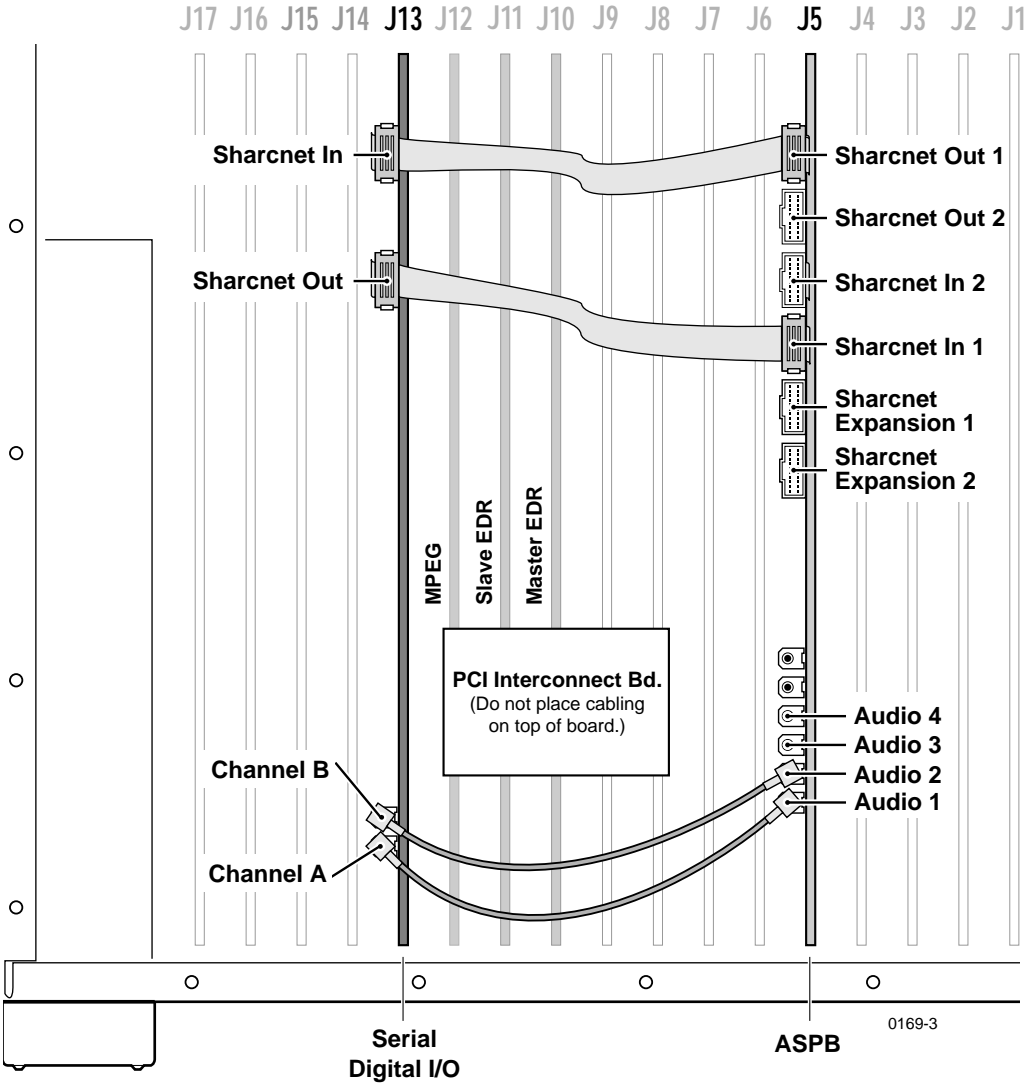
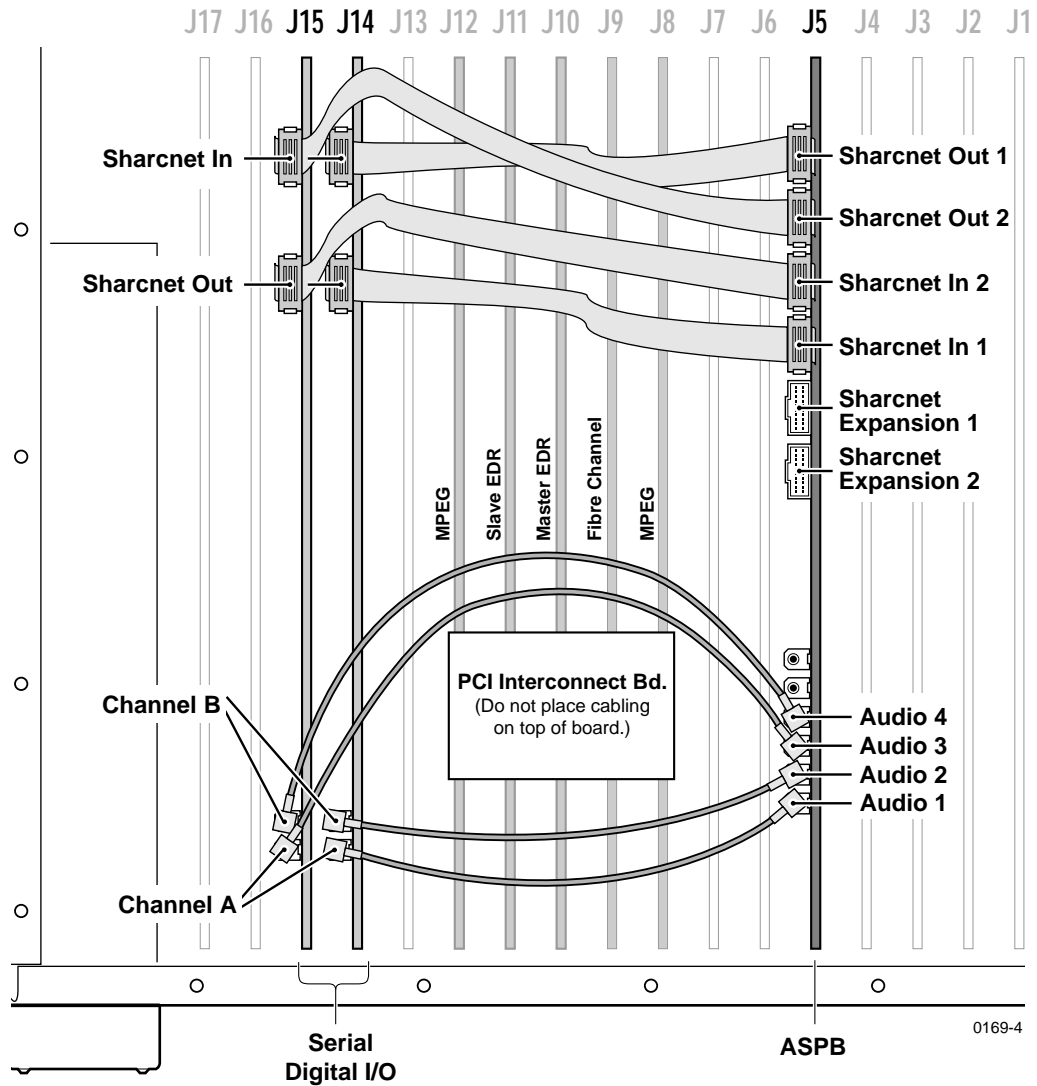
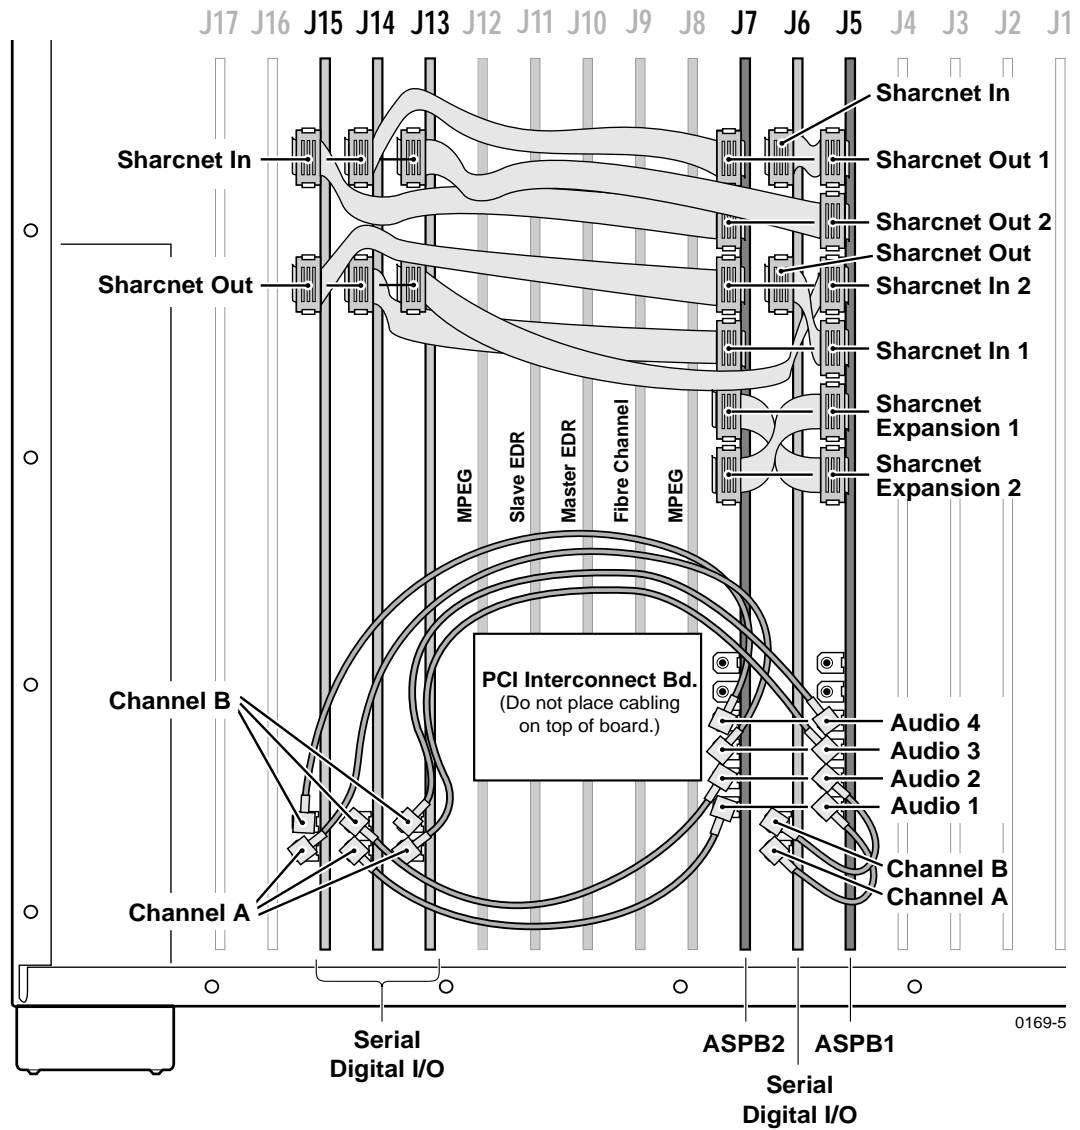

Figure 7. Cabling for a serial digital I/O board and an ASPB
Figure 8. Cabling for two serial digital I/O boards and an ASPB
Figure 9. Cabling for four serial digital I/O boards and two ASPBs
1. Remove the three-slotted PCI Interconnect board and remove all cables connected Profile boards, such as SCSI, Sharcnet, or audio clock cables (look at Figure 7 on page 23 if you need help identifying the Sharcnet and audio clock cables). Label each cable before removing it and draw a simple diagram to make it easier to reconnect the cables later. Remove any cable tie wraps, if necessary.
1. Remove the three-slotted PCI Interconnect board and remove all cables connected to Profile boards, such as SCSI, Sharcnet, or audio clock cables (look at Figure 7 on page 23 if you need help identifying the Sharcnet and audio clock cables). Label each cable before removing it and draw a simple diagram to make it easier to reconnect the cables later. Remove any cable tie wraps, if necessary.
2. Remove the three-slotted PCI Interconnect board and remove all cables connected to Profile boards, such as SCSI, Sharcnet, or audio clock cables (look at Figure 7 on page 23 if you need help identifying the Sharcnet and audio clock cables). Label each cable before removing it and draw a simple diagram to make it easier to reconnect the cables later.
If you have a second serial digital I/O board, the third connector on the ASPB is connected to the first connector on the second serial digital I/O board; then, the fifth to the second. See an example of Sharcnet cabling for one serial digital I/O board in Figure 7, for two boards in Figure 8, and for four boards in Figure 9.
For example, if you have two analog composite I/O video boards in slots J14 and J15, the audio clock signal from the board in J14 should be connected to the first and second audio record input clock signals on the ASPB while the signals from J15 should be connected to the third and fourth connectors. See serial digital I/O examples of audio clock cabling for one serial digital I/O board in Figure 7 on page 23, for two boards in Figure 8 on page 25, and for four boards in Figure 9 on page 27.
The first cabling example shows the external audio clock and Sharcnet cabling necessary for a single serial digital I/O board used with a single ASPB. The cable connections are listed in Table 4 and shown in Figure 7.
The second cabling example shows the external audio clock and Sharcnet cabling necessary for two serial digital I/O boards used with an ASPB. The connections are listed in Table 5 and shown in Figure 8.
This final cabling example shows the external audio clock and Sharcnet cabling for four serial digital I/O boards used with two ASPBs. The connections are listed in Table 6 and shown in Figure 9.